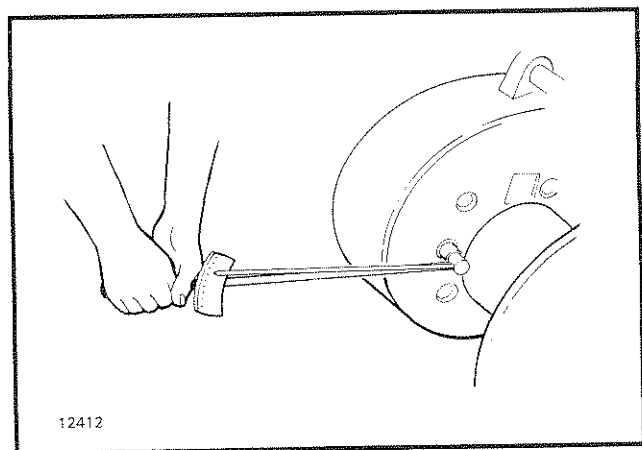

FIGURE 3–8. PUT A TORQUE ON THE DRUM
C. See FIGURE 3–4. A tube (5) goes from the accumulator valve to the 90° elbow for the hose to the oil brake. Disconnect the tube from the 90° elbow.
NOTE: See FIGURE 3–5. The W3A winch has a hose (5) instead of a tube that connects to the 90° elbow. Disconnect the hose and put the end of the hose into a one litre (one quart) container.
2. Hold a torque wrench on one of the drum bolts so that the torque wrench is perpendicular to the axis of the drum. See FIGURE 3–8. Put a 30 N.m (20 lbf ft) torque on the drum in the same direction that the cable will unwind from the drum.
B. Drag Shoe Adjustment. See FIGURE 3–9. Loosen the lock nut (1) on the setscrew (2). Use an Allen wrench to turn the setscrew 1/4 turn. Turn the setscrew to the right (clockwise) to increase the “drag” or turn the setscrew 1/4 turn to the left (counterclockwise) to decrease the “drag”. Tighten the lock nut. Test the “drag” on the drum. Make additional adjustments as necessary.